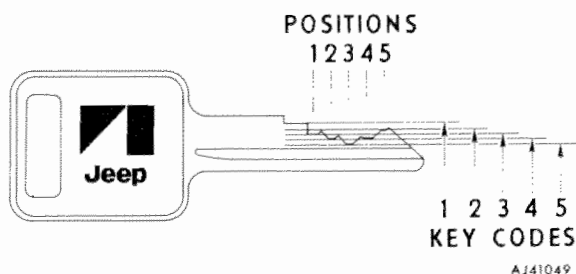

Fig. A-7 Key Coding Template
**If the ignition switch lock is defective and the key is available**, the cylinder and individual tumblers can be ordered and matched to the existing key. To determine the tumbler arrangement, place the key over the template (fig. A-7). Starting with the number 1 position, read across the visible line and record first digit of the key code. Continue this process for subsequent numbers 2 through 5.
**NOTE:** The template shown in figure A-7 may be used to determine the key biting code of a key for which the key code number is unknown.